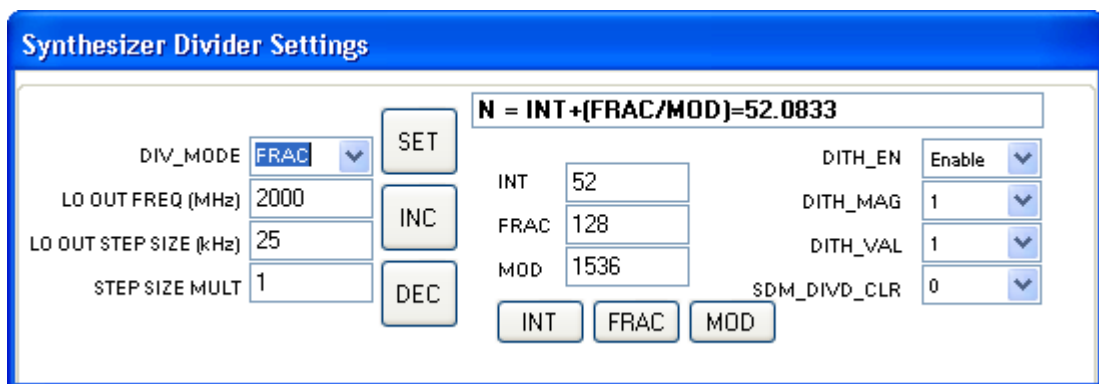

Figure 6. Synthesizer Divider Settings, LO Frequency Dialog Box
8. Click on the Synthesizer Divider Settings in the middle of the GUI. This will bring up the Synthesizer Dialog Box as shown in Figure 6.